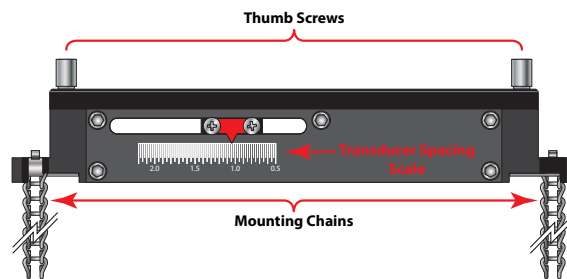

Figure 34: Transducer spacing scale for DTTSU transducers
1. Determine the transducer spacing required using the flow meter and the scale on the side of the DTTSU transducers, set the spacing. See *Figure 34*.